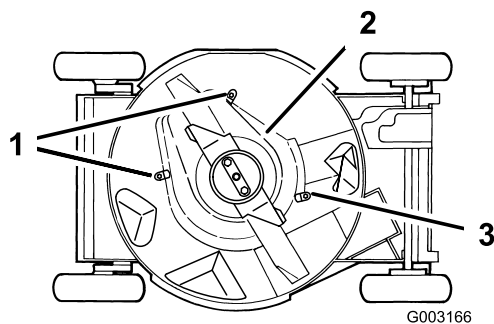

Figure 40
6. Loosen the tabs that secure the blade brake clutch shield to the deck by loosening the nuts or the bolts on the tabs (Figure 40). Rotate the tabs 180° to move them out of the way.